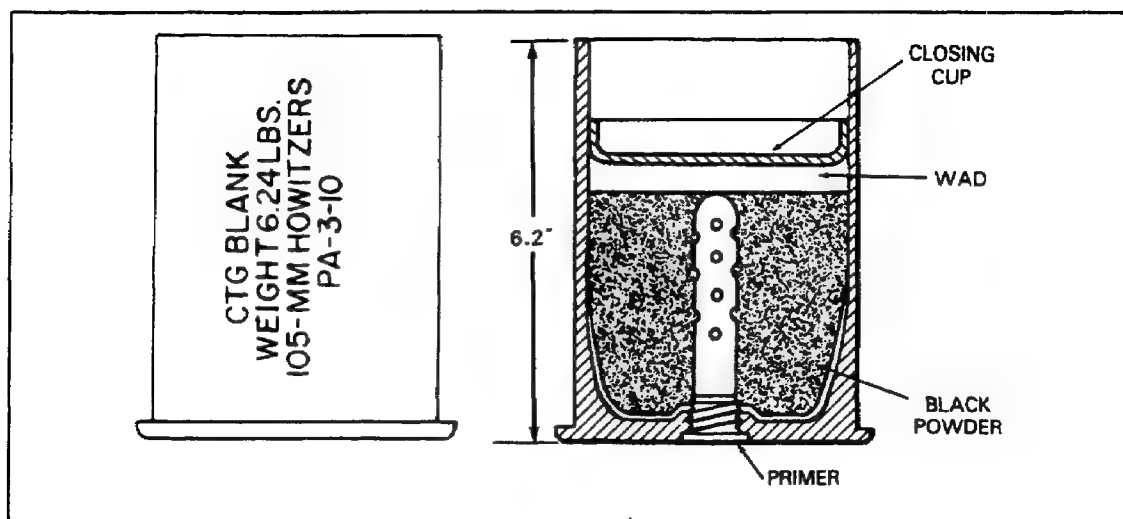

Figure 10. Blank Artillery Ammunition.
**Blank Ammunition.** This type of ammunition is used for simulated fire and ceremonial firing. The most common blank artillery round is currently the 105mm, which consists of a short cartridge case, a primer, and a small black powder charge. See Figure 10.